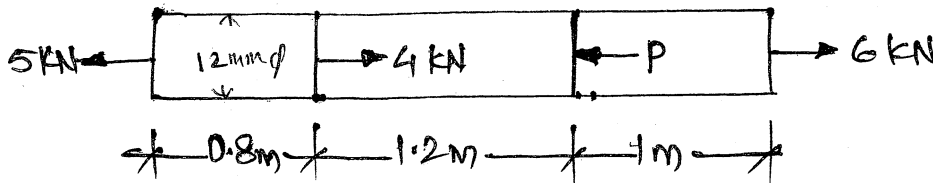

Fig. 1
- a) Determine load P and total elongation in the bar shown in Fig. 1 having 12 mm diameter